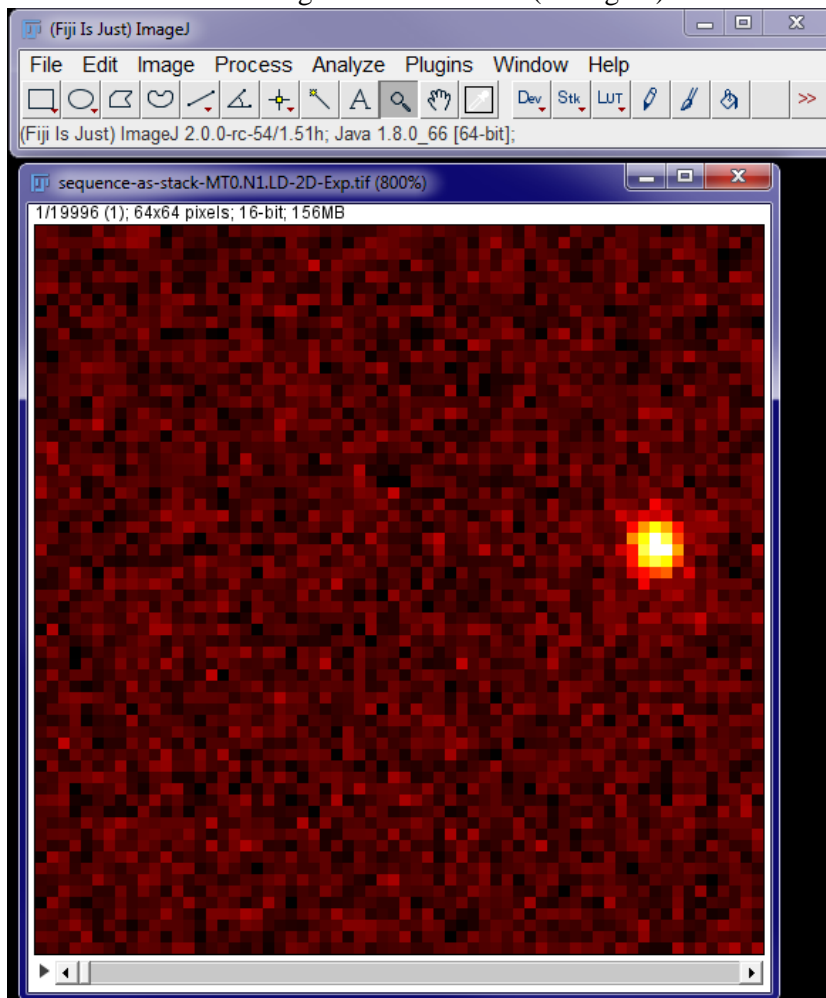

Figure 18 Initialize Fiji and load the imagestack.
3. Go to *Image/Adjust/Brightness / Contrast* and press *Reset* in the B&C panel now displayed. Next zoom in on the image to a 800% zoom (see fig 18).